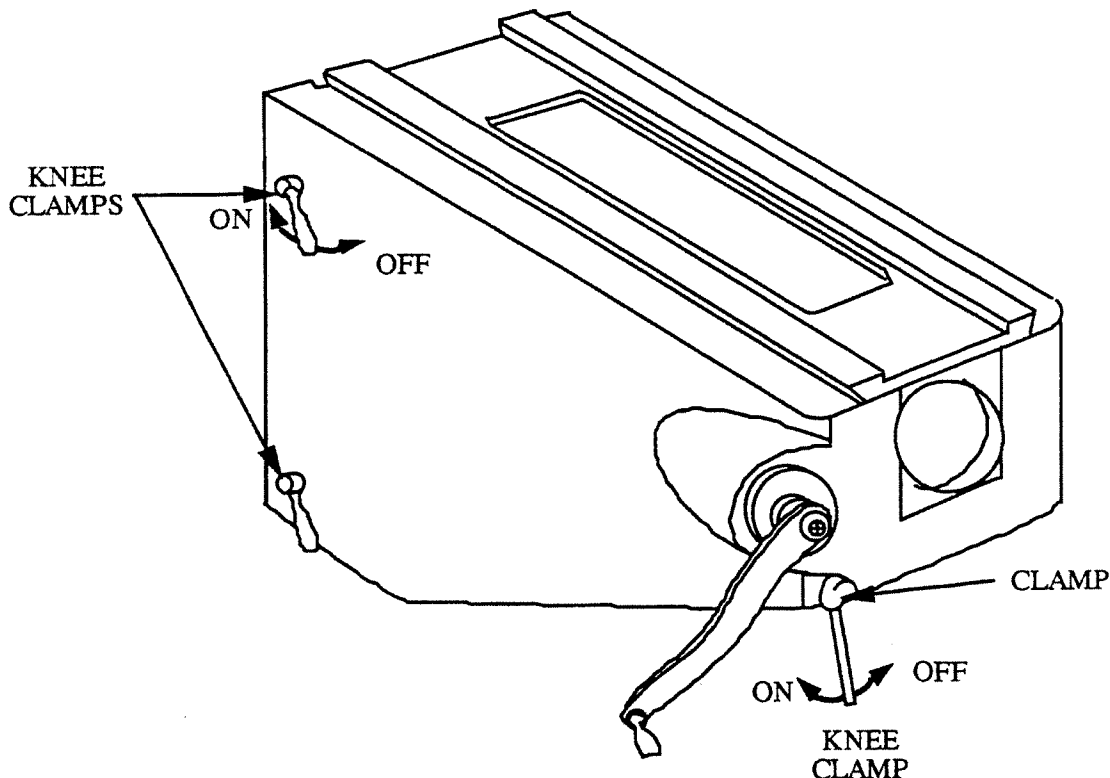

Figure 8-23. Knee Clamping
8.28 KNEE CLAMPING (Figure 8-23)